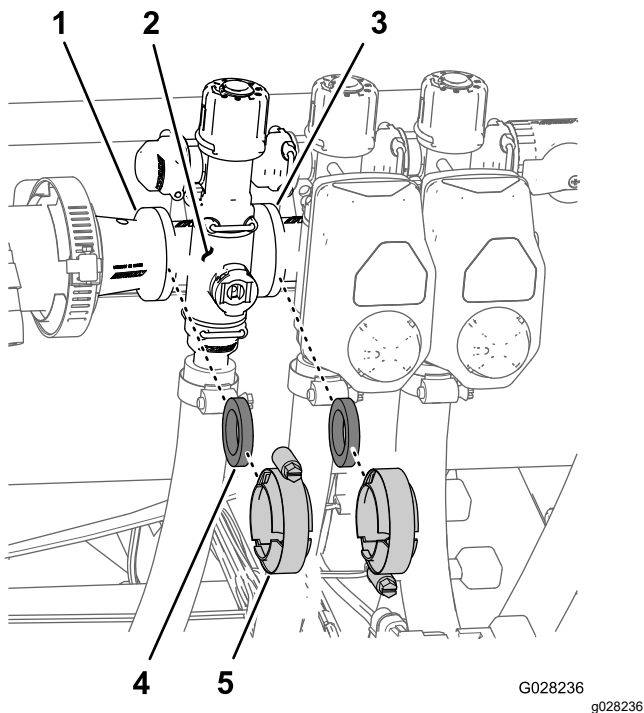

Figure 73
1. Remove clamps and gaskets that secure the manifold for the section valve (Figure 73) to the adjacent section valve (if left section valve, and the reducer coupling).